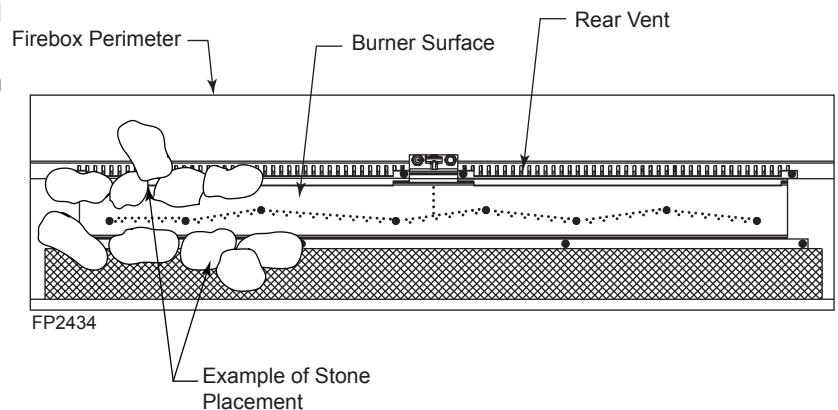

**Figure 39 -
1. For best results, spread glass evenly over the entire floor and burner making sure the glass is not too heavy over the burner ports (single layer only). Keep rear vent area open to allow air to circulate under the stones. *Figure 39*
2. Place the stones randomly in front of and behind the burner ports. **CAUTION: Do not allow stones to sit directly on burner ports or in flame.** *Figure 39*